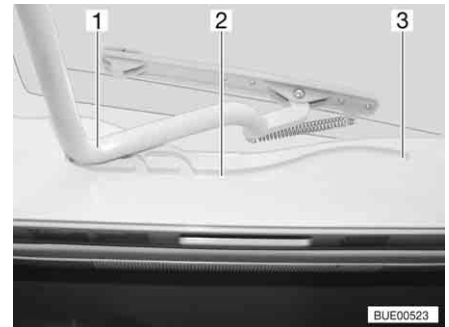

Fig. 78 Heki skylight, guide
- Pull the bar (Fig. 78,1) in the guides (Fig. 78,2) to the rearmost position (Fig. 78,3).
- Use both hands to push the bar (Fig. 78,1) slightly upwards.
- Pull the bar in the guides (Fig. 78,2) to the desired position.